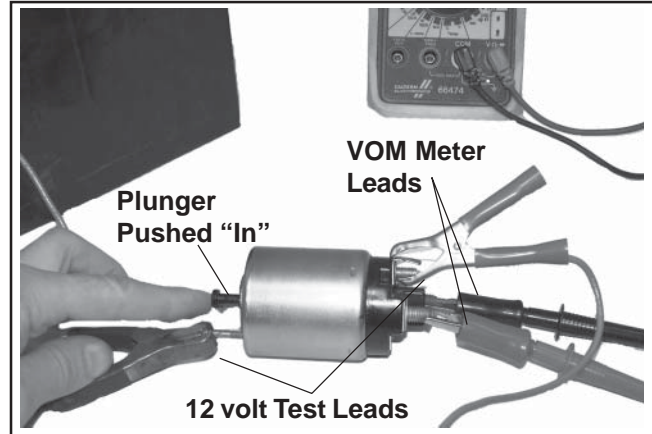

Figure 8-48. Testing Hold-In Coil/Solenoid Contact Continuity.
Use an ohmmeter set to the audible or Rx2K scale, and connect the two ohmmeter leads to the two large post terminals. Perform the preceding test (3) and check for continuity. See Figure 8-48. The meter should indicate continuity, if no continuity is indicated the solenoid should be replaced. Repeat test several times to confirm condition.